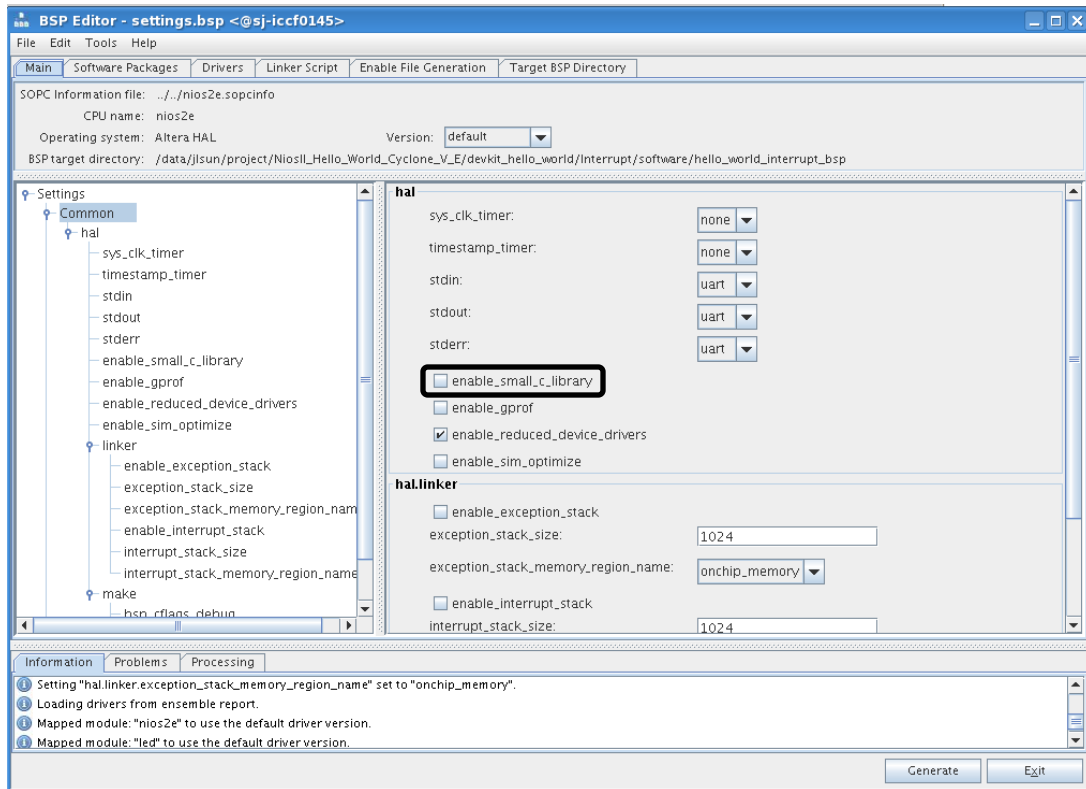

Figure 70: Uncheck enable_small_c_Library
- Right click on the hello_world_interrupt_bsp folder and go to Nios II → BSP Editor and uncheck the enable_small_c_library. Hit generate to save the changes, as shown in Figure 70.